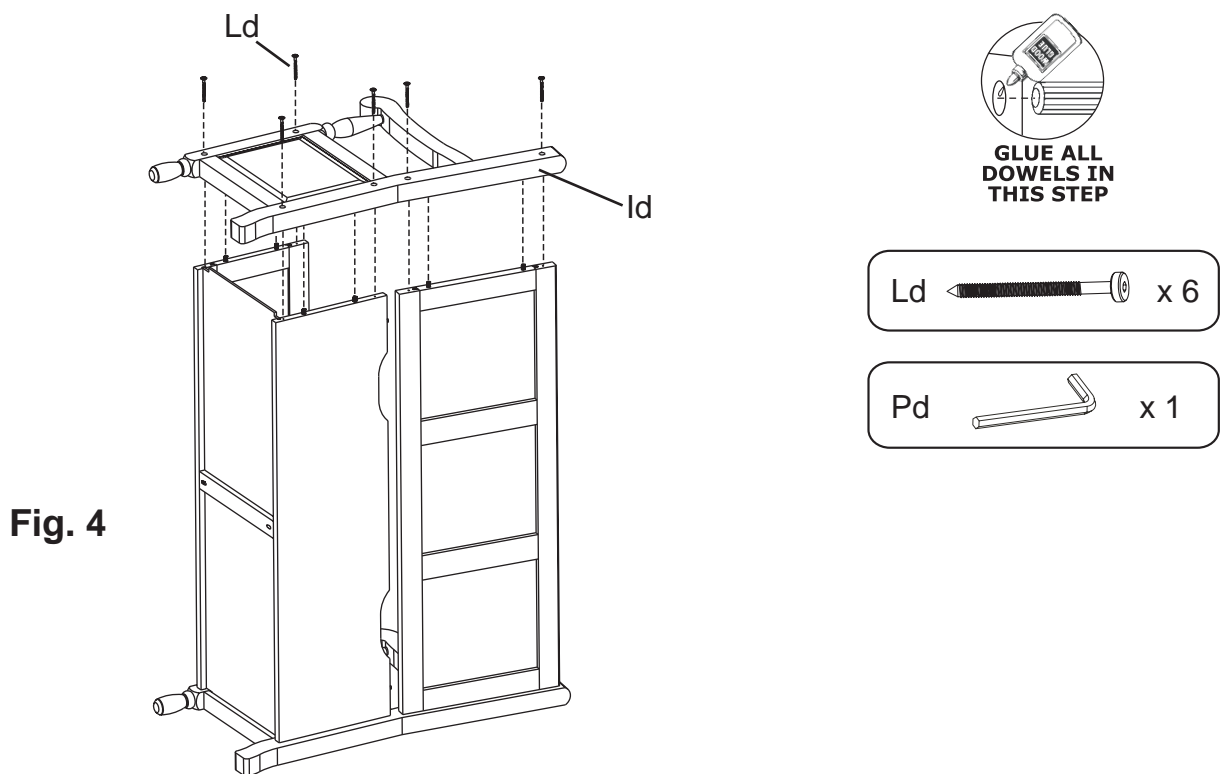

Fig. 2
2. Spread a thin layer of glue in the dowel holes in the Left Leg Assembly (Ad). Insert the the Upper Back (Cd), Back Panel (De) and Front Panel (Ed) and gently tap with a padded hammer. Quickly wipe away any excess glue with a damp rag. Using the provided Hex Wrench (Pd), attach with six 1/4"x63mm Hex Screws (Ld). See Figure 2.